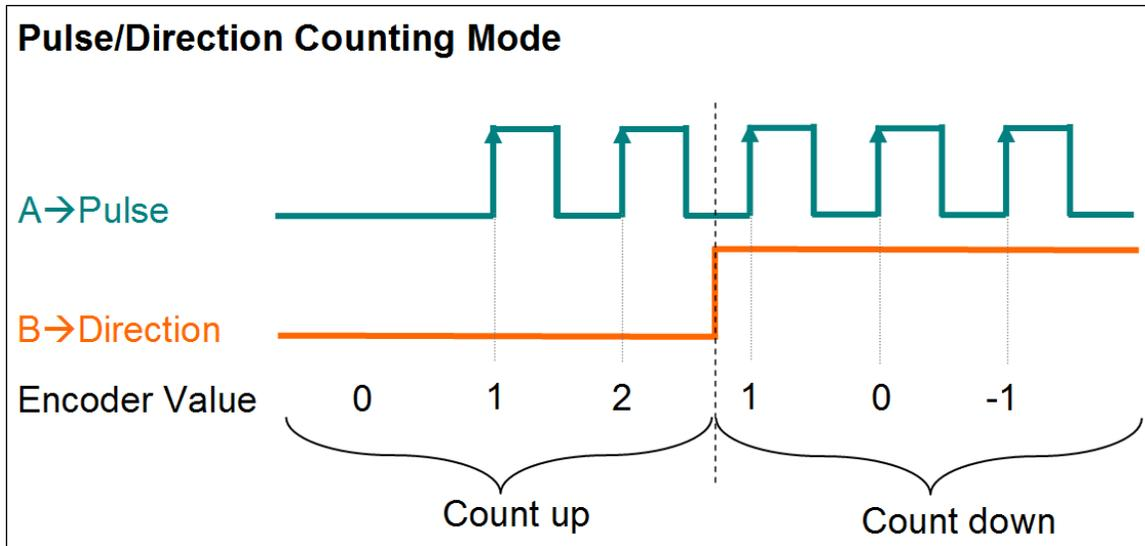

Figure 28: Pulse/Direction counting mode
In the **pulse/direction counting mode** (Figure 28) one input signal line is being used to indicate the position and a second one indicates the direction of motion, either forward or reverse. The "A" signal serves as the counter input and the "B" signal serves as the direction input (B = high: enables up count; B = low: enables down count). The ECAT-2092T counts the rising or falling edges of the "A" signal pulses and the "B" signal determines the direction of the count and decides whether to increment or decrement the counter. On every active input signal "A" the position counter is incremented by one when the direction input "B" signal is high and decremented by one when the direction input "B" is low.
- By changing the signal "B" polarity which indicates the direction for the pulse/direction counting mode (Figure 28) the counting direction will change.